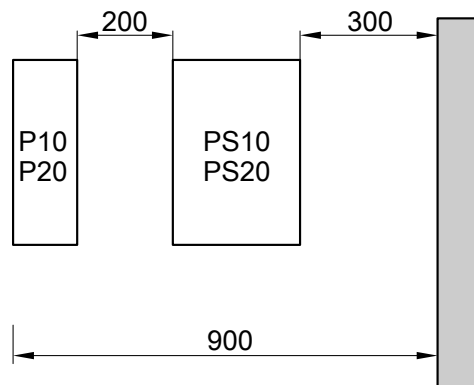

Fig. 8
2. Close shut-off valve (H) in the return line (see Fig. 8).